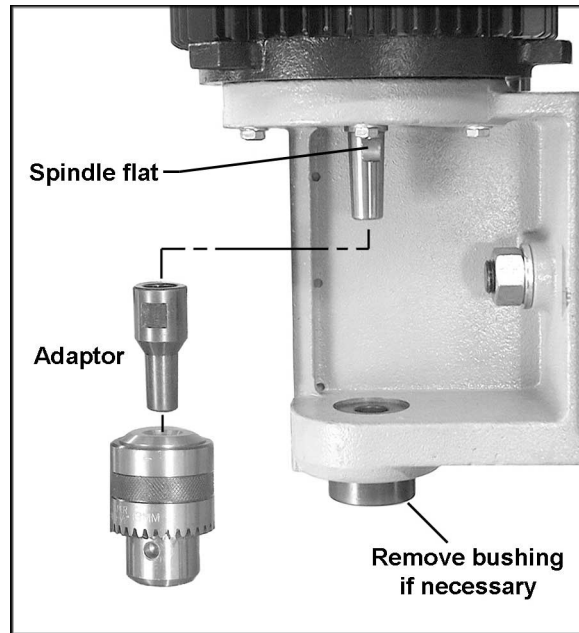

Figure 9
3. Hold the spindle stationary by placing a wrench on the flats of the spindle (see Figure 9). With your other hand, insert the chuck key into the chuck and use it to twist the entire chuck, until the chuck releases from the tapered spindle. Do not allow the chuck to drop, as it can be damaged.
4. Push the adaptor into the chuck (Figure 9). Then push this assembly onto the spindle.